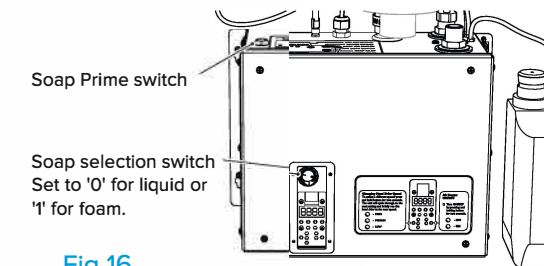

Fig 16
5. Press the soap prime switch until soap is dispensed from the tap head (See figure 16).